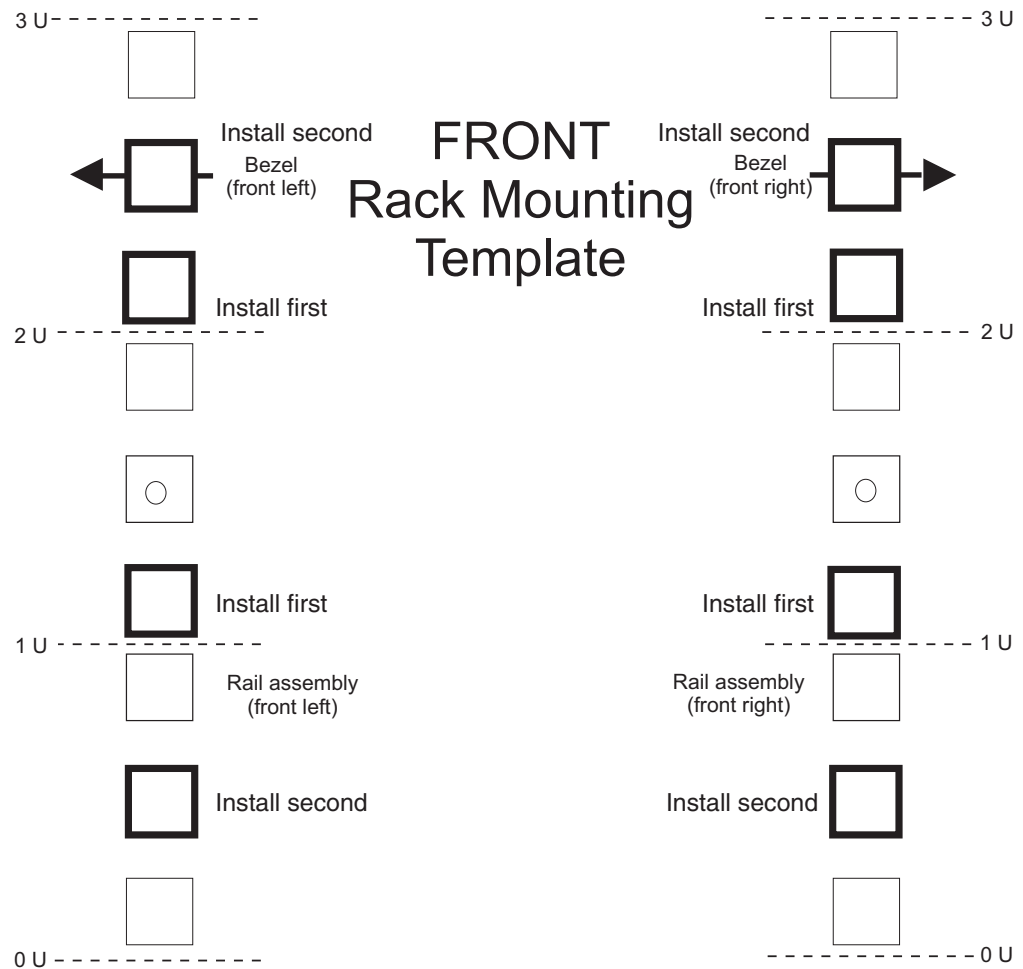
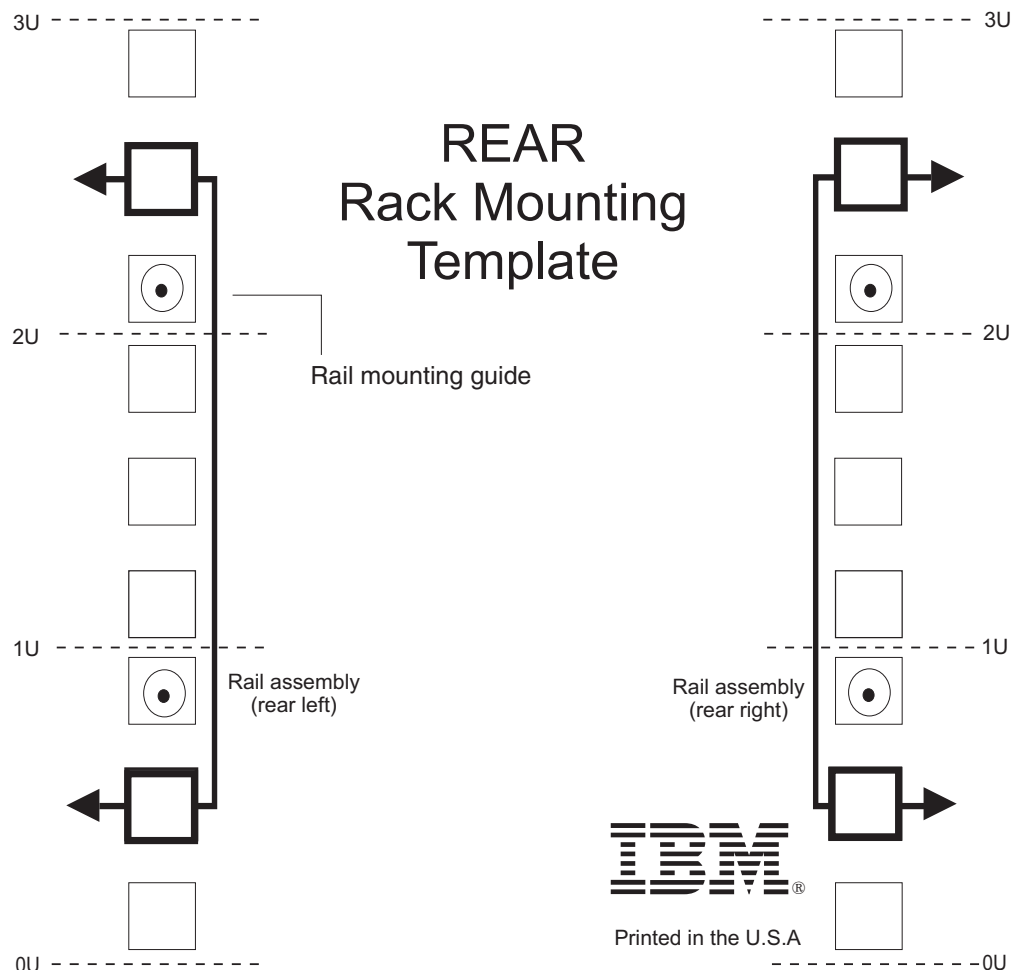

Figure 12. Front rack mounting template
Figure 13. Rear rack mounting template
Use the following templates (Figure 12 and Figure 13 on page 32) to identify the proper locations for inserting M5 screws when mounting the support rails and DS3950 storage subsystem to a rack cabinet. The locations for the M5 screws are highlighted in the templates.
Important: Duplicate copies of the rack mounting templates are provided in Appendix B, “Rack mounting templates,” on page 163. If you want to tear out the templates from this document, use the copies in Appendix B, “Rack mounting templates,” on page 163. Use the preceding templates (Figure 12 on page 31 and Figure 13 on page 32) to identify the proper locations for inserting M5 screws when mounting the support rails and DS3950 storage subsystem to a rack cabinet. The locations for the M5 screws are highlighted in the templates.
- The lip on the rail lines up with the bottom of the storage subsystem (the 0U boundary in Figure 13 on page 32).
Note: Be sure to install the screw labeled *install first* in Figure 12 on page 31.